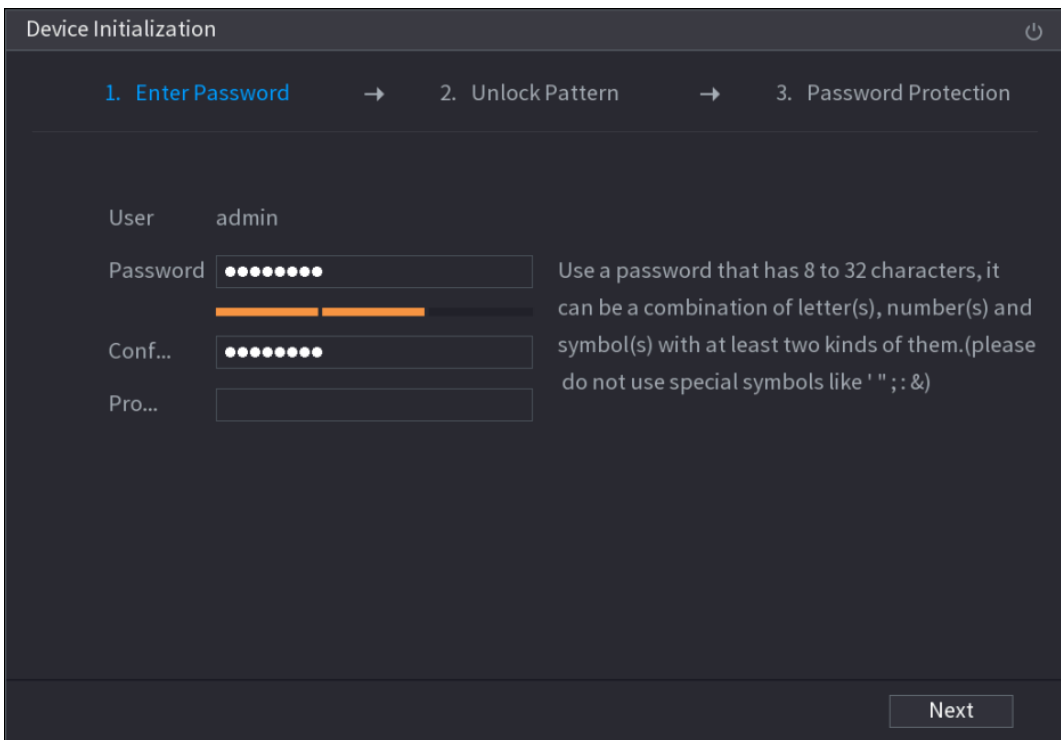

Figure 5-4
**Step 5** Select system zone, configure system time, and then click **Next**. The **Enter Password** interface is displayed. See Figure 5-4.